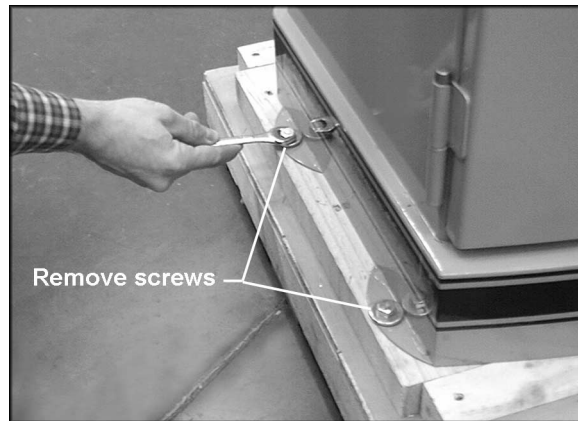

Figure 1
1. Remove the four screws and flat washers holding the machine to the pallet with an 11mm wrench, as shown in Figure 1.